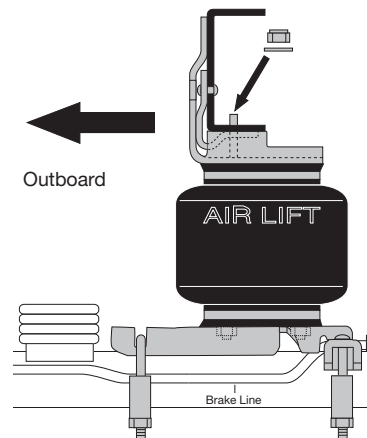

fig. 9
- Secure the stud using 3/8" flat washer (K) and 3/8" nylon lock nut (J). See Figure 9. Torque stud nut to 16 lb.-ft. (22Nm).